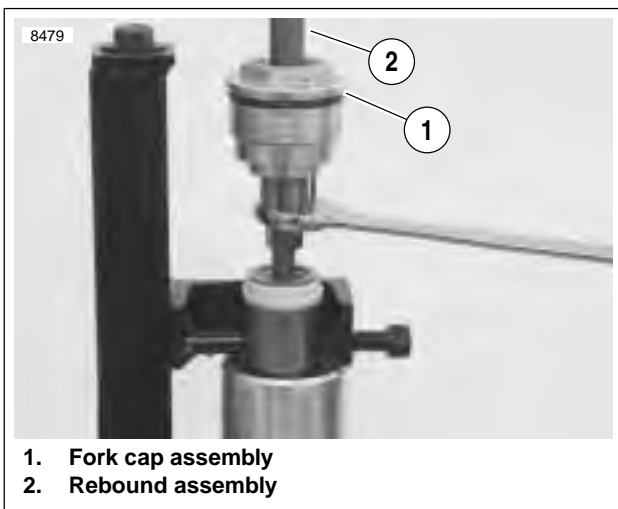

Figure 2-71. Rebound Assembly and Fork Cap Assembly
6. See Figure 2-71. Tighten the damper locknut (10) to 22-30 ft-lbs (30-40 Nm).